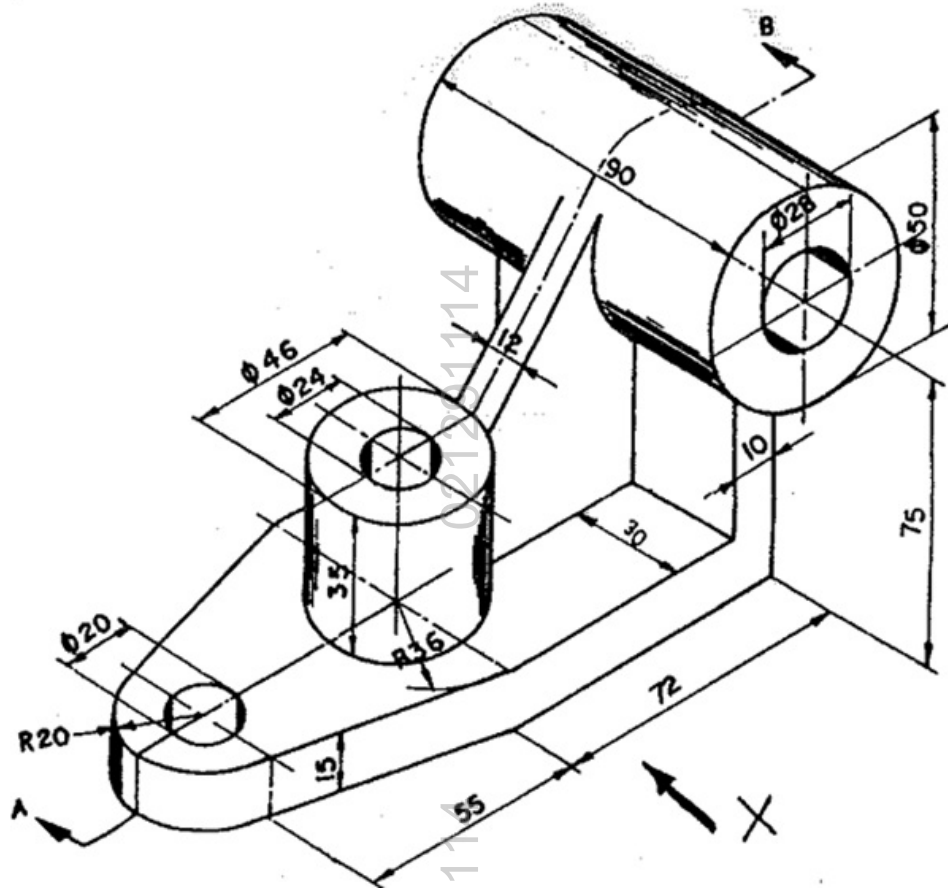

Fig. No. 2
B) A Pictorial view of an object is shown in Fig. No 2 Draw the following view: